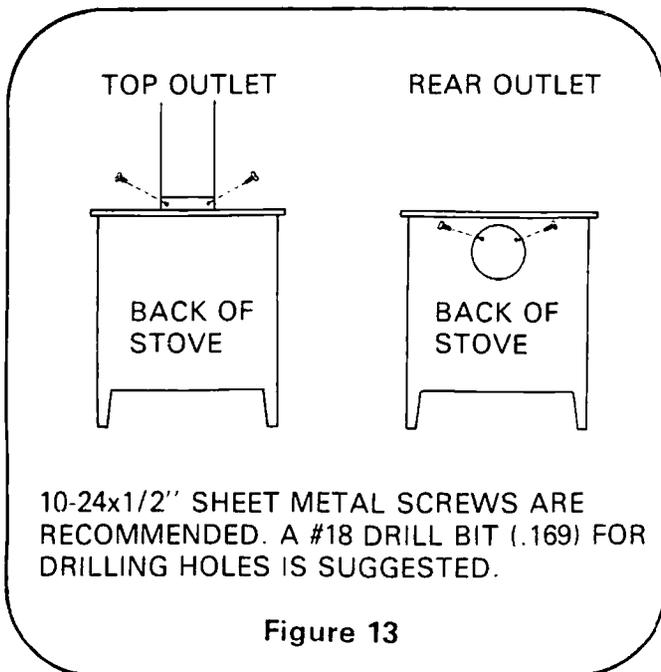

Figure 13
8. Secure the single wall chimney connector to the flue outlet using at least 2 sheet metal screws. (See Figure 13.)